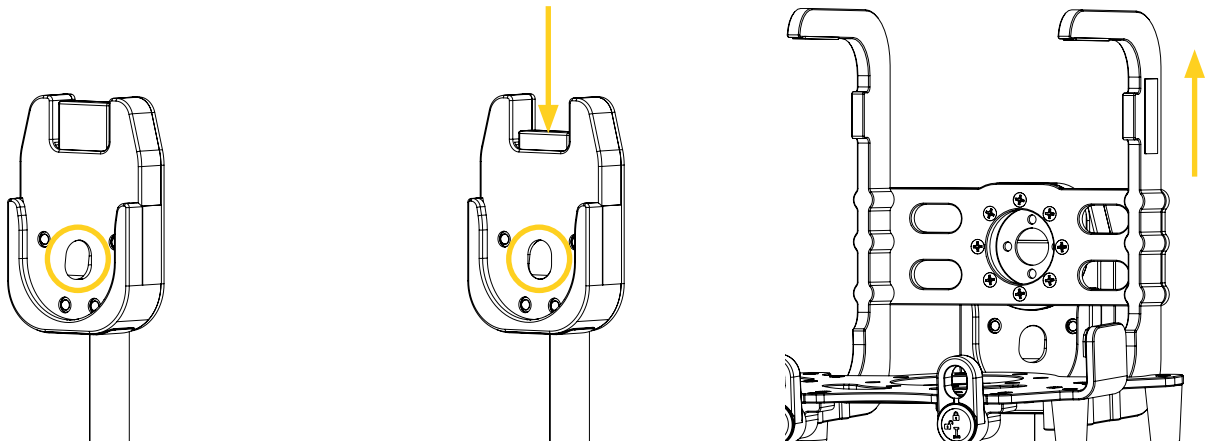
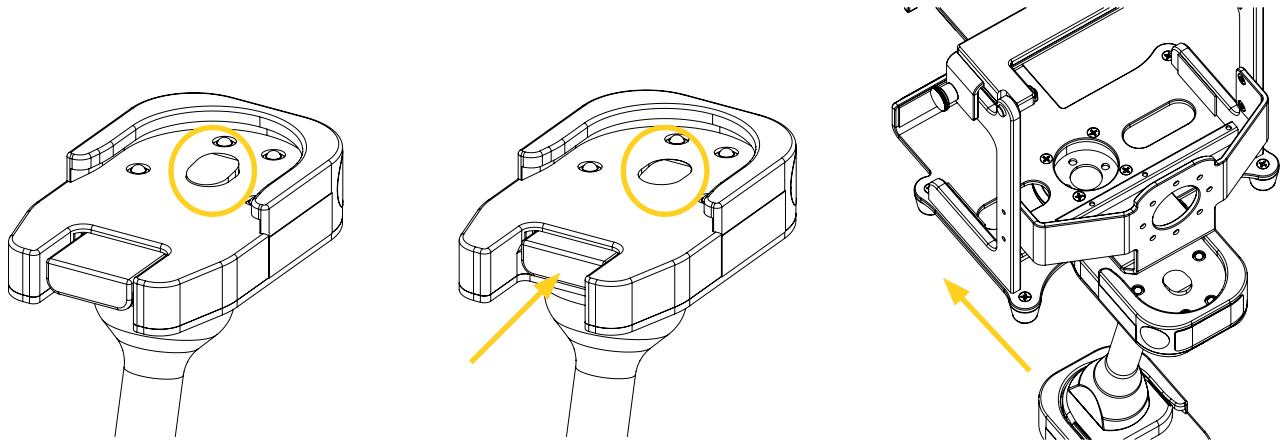

Figure 9: Unlocking the Safety MD-Transporter (vertical, standard/short)
Figure 10: Unlocking the Safety MD-Transporter (horizontal, angular)
- **To unlock** the Safety MD-Transporter, press and hold the quick release button, then pull on the mounting bracket vertically (Figure 9) or horizontally (Figure 10) until the disc is out of the mounting system. Release the quick release button.